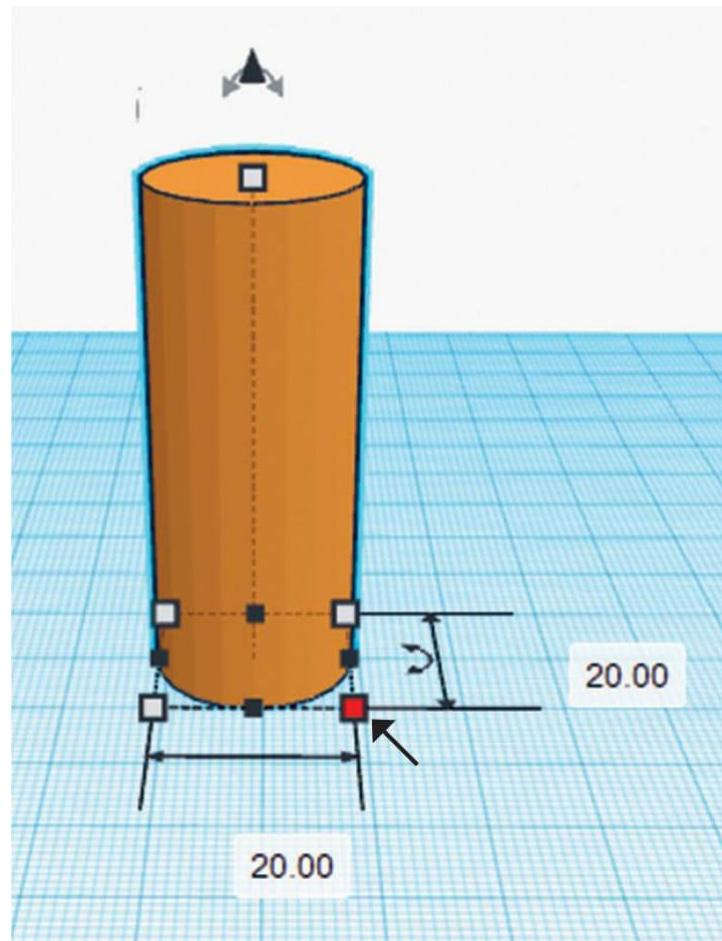

FIG. 4: Click on the black square size adjusting tool on the bottom corner to see the diameter of the cylinder.
4. Check the dimension of the cylinder to makes sure it is 10 mm in radius (or 20 mm diameter) by clicking on the small black arrow on any bottom corner (fig. 4).